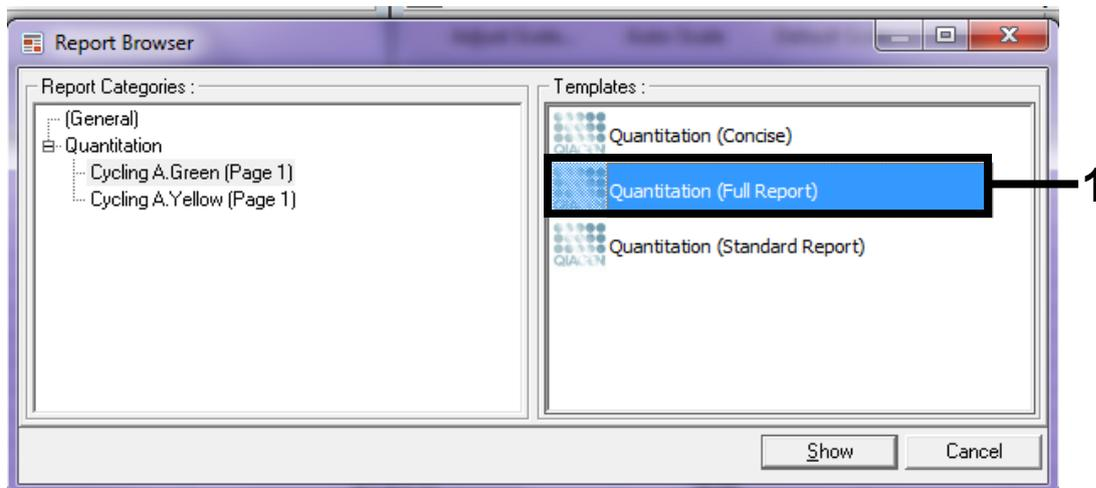

Figure 38. “Quantitation report (Full Report)” (1).
11. Select “Quantitation (Full Report)” under “Templates” (Figure 38).